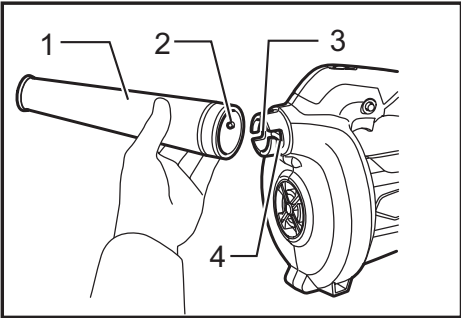

Fig.3
► **Fig.3:** 1. Nozzle 2. Pin 3. Blower outlet 4. Notch